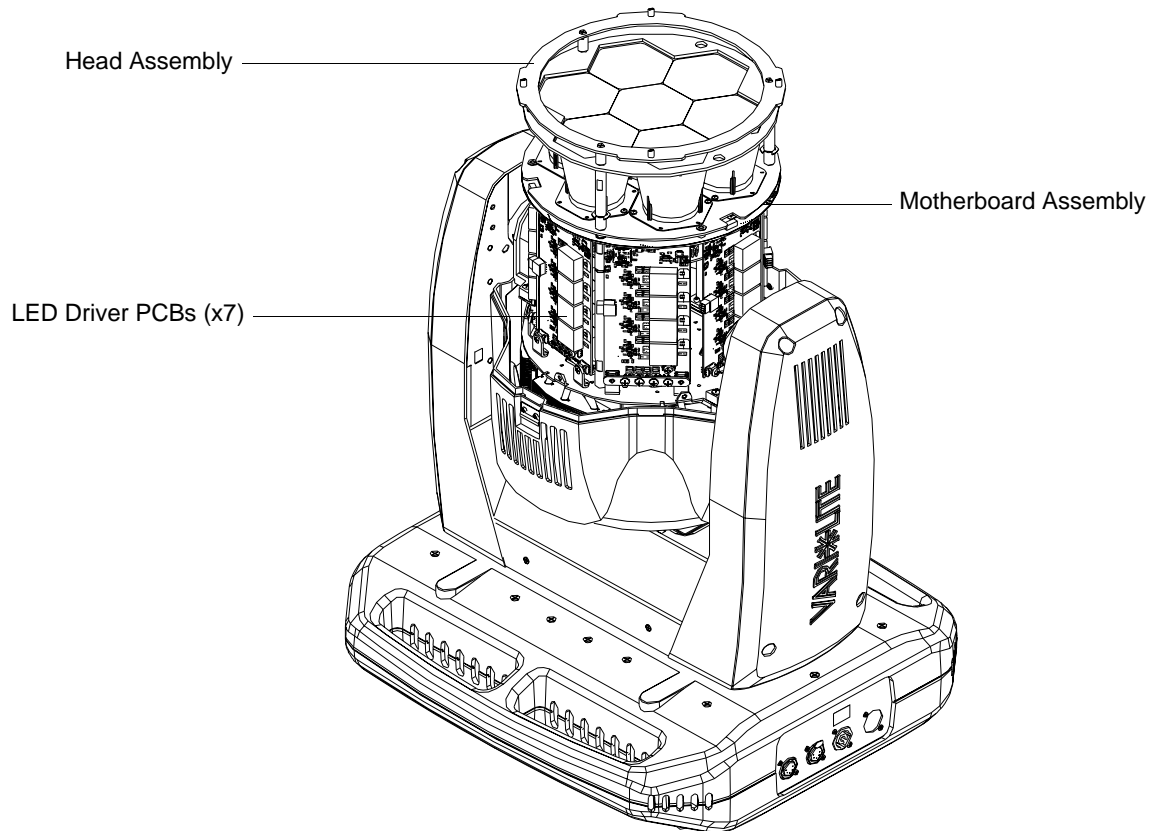

Figure 2-24: LED Driver PCB Removal
Step 6. At head assembly, as shown in Figure 2-24, locate LED driver PCB to be replaced.